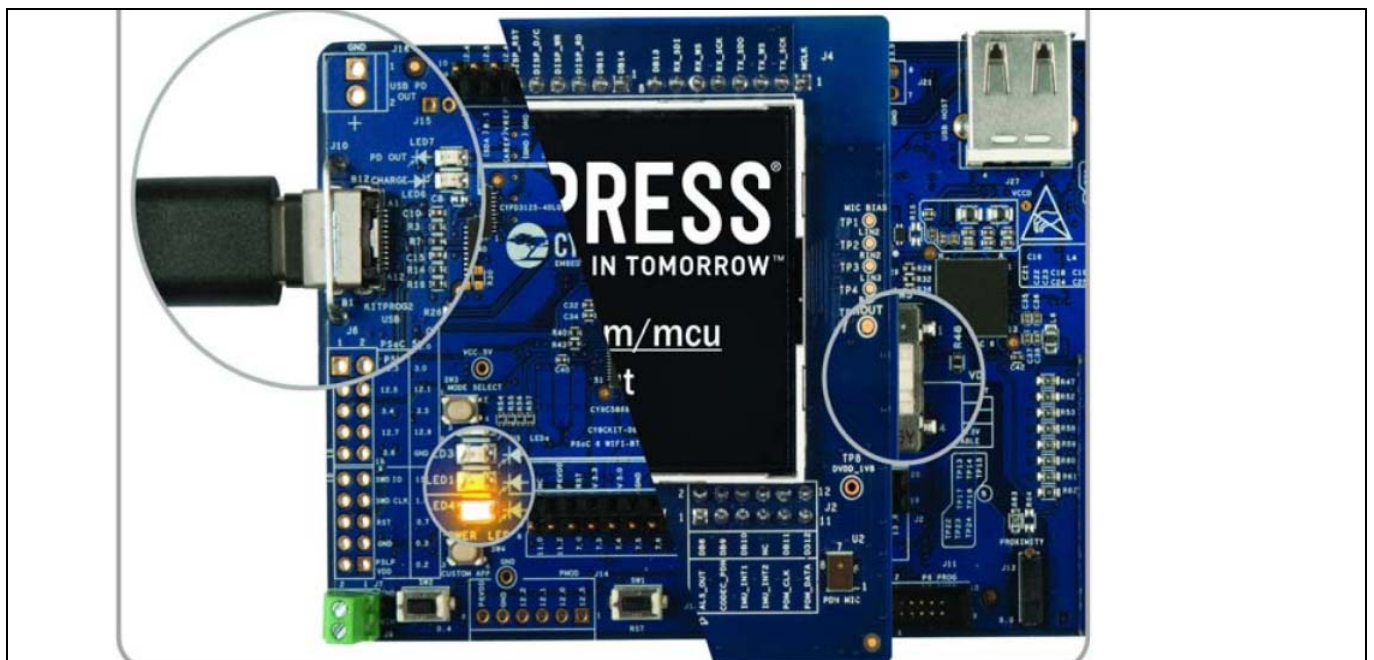

Figure 11 Connect USB cable to the USB connector on the board
1. Connect the board to the PC using the provided USB cable through the KitProg3 USB connector, as shown in Figure 11. The kit enumerates as a composite device when you connect it to your PC.